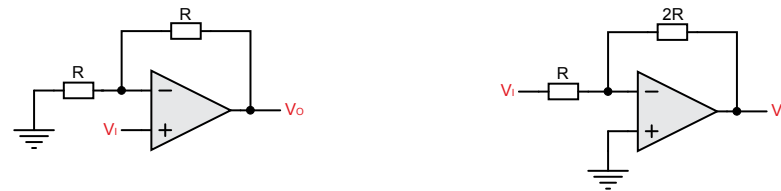

Figure 1.5: (a) Non-inverting amplifier of gain 2, (b) Inverting amplifier of gain 2
A non-inverting amplifier with a gain of 2 is shown in Figure 1.5 (a).
An inverting amplifier with a gain of 2 is shown in Figure 1.5 (b).
- 1 Design the following amplifiers - (a) a unity gain amplifier, (b) a non-inverting amplifier with a gain of 2 (Figure 1.5(a)) and an inverting amplifier with the gain of 2.2 (Figure 1.5(b)).